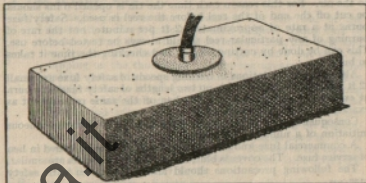

Fig 3. Gun-cotton slab with primer, detonator and safety fuzer
*NOTE.*—For fixing and initiation of primers see Figs 3 and 4.